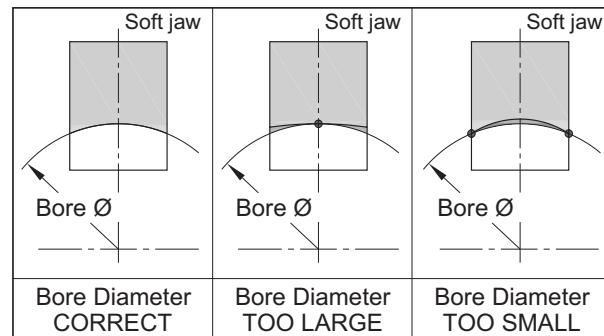

Figure 44-3
*Figure 44-3* shows three versions - one correctly bored jaws and two incorrectly bored jaws. In both incorrect versions, the grip, the concentricity, or both, may suffer.